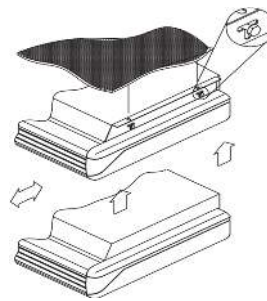

Figure 6
- (1) See Table1 for hanging weights. Dry coil.
- (2) For unit dimensions, See Table 2
- (3) Select position for unit and define direction of water pipe, drainpipe and electrical wiring.
- (4) Bracket dimension and locations. See Table 3
- (5) Ensure the unit is installed per all prevailing codes.
- (6) Ensure the structural strength of the supporting members is sufficient.
- (7) Remove unit from the carton and carefully place the unit to the installed position and tighten the (4) bolts. See figure 6 and 7